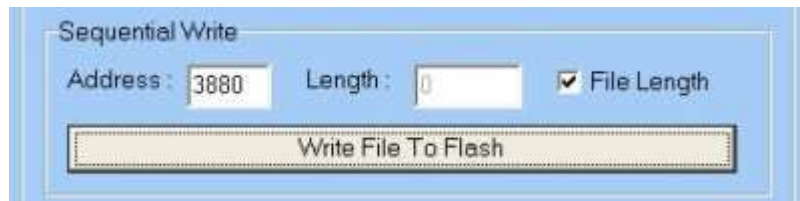

Figure 11.6. Write an entire file into the Flash Memory
5. You can also load a file into Flash by using Sequential Write function. Please refer to Figure 11.6. You have to specify the starting address and the length (in bytes) to be written into the Flash.